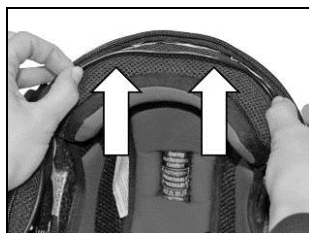

Fig. 26
- Arrange the cable behind the polystyrene shell or inside the relevant housing (Fig. 26).